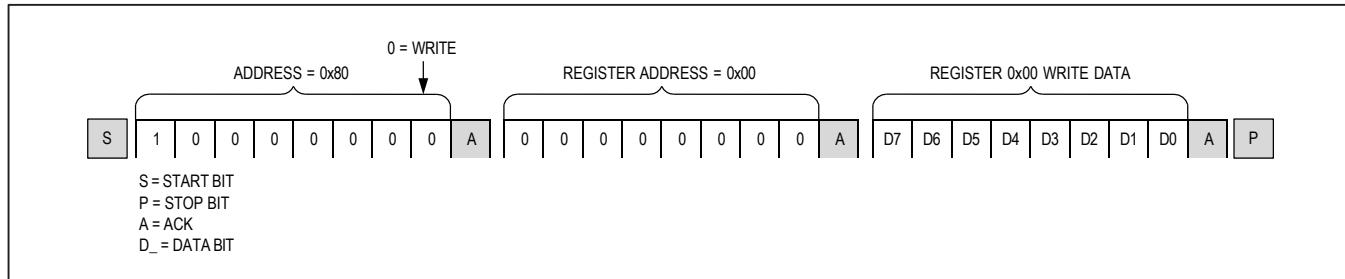
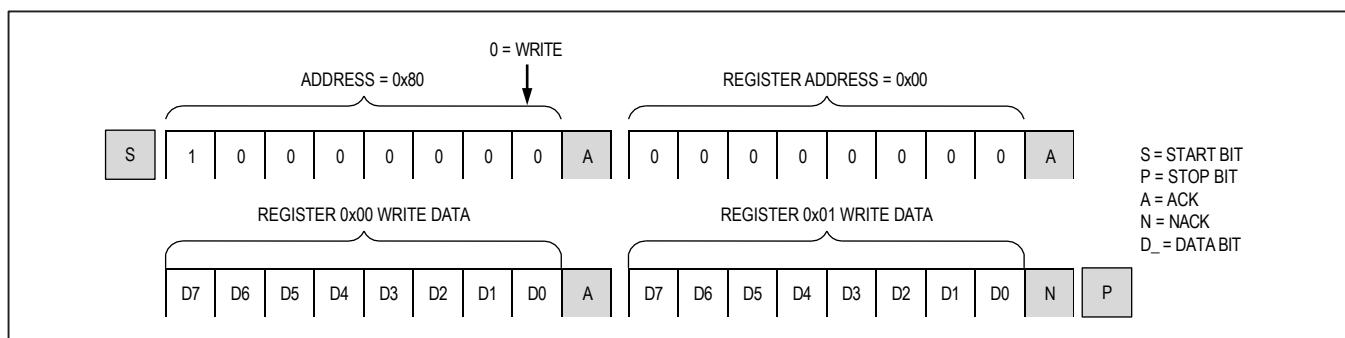

Figure 31. Format for I2C Write
Figure 32. Format for I2C Write to Multiple Registers
Writes to the serializers comprise the transmission of the subordinate address with the R/W bit set to zero, followed by at least one byte of information. The first byte of information is the register address or command byte. The register address determines which register of the device is to be written by the next byte, if received. If a STOP (P) condition is detected after the register address is received, the device takes no further action beyond storing the register address (Figure 31). Any bytes received after the register address are data bytes. The first data byte goes into the register selected by the register address, and subsequent data bytes go into subsequent registers (Figure 32). If multiple data bytes are transmitted before